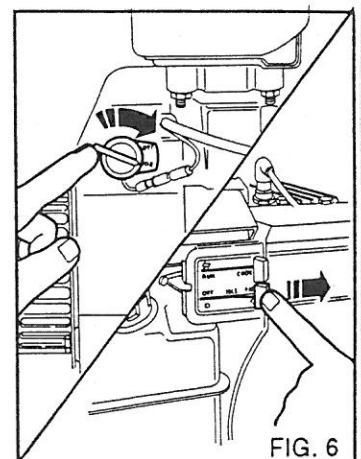

FIG. 6
4) Turn the motor switch to **ON** position (Honda motor). Set the accelerator lever at **FAST** (B&S motor) (fig. 6).